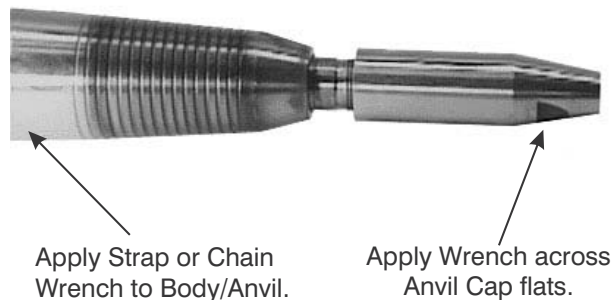

Figure 9-31. Secure Anvil Cap To Body/Anvil.
1. Place the Hole-Hog on a level surface and thread the Anvil Cap (24) onto the Body/Anvil (1) hand tight.
2. Hold the Body/Anvil (1) in place with a strap or chain wrench. See Figure 9-31.